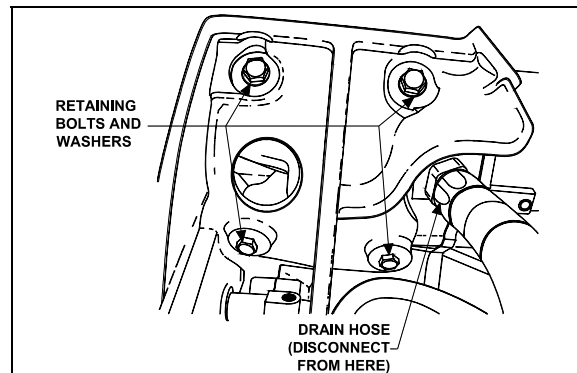

FIGURE 27: ALTERNATOR RETAINING BOLTS AND WASHERS 06350
alternator (Figure 27) and tape line to prevent entry of foreign matter.
7. Remove the four bolts and lock washer retaining alternator (Figure 27).